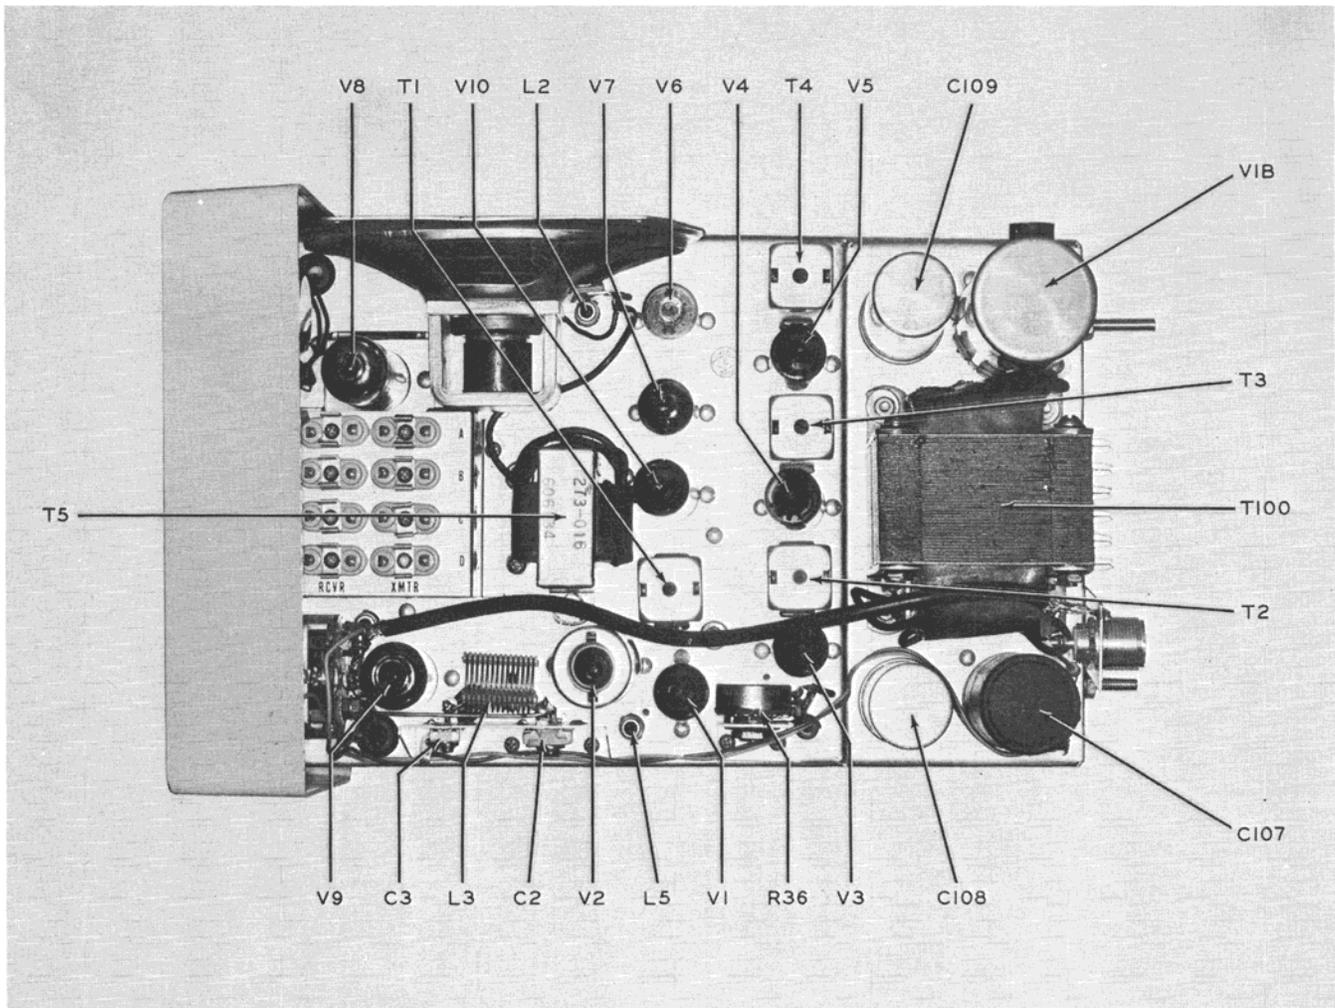

Figure 2. Model G-15 Citizen's Communicator, Top Chassis View
3. Plug the unit power input cable into the AC outlet. Plug the transmission line into the jack on the rear of the station cabinet. Turn the unit on using the "VOLUME-OFF" control knob and allow approximately 30 seconds for warm-up. Press the microphone push button. Refer to Figures 2 and 3 for the location of adjustments used in the following tuning procedure. Using a screwdriver, gently tighten the RF LOADING CAPACITOR fully clockwise. Then, alternately adjust the RF AMPLIFIER TUNING CAPACITOR and the RF OUTPUT LOADING CAPACITOR, in small increments, to obtain maximum deflection of the tuning meter. Work back and forth between the adjustments several times until no further increase in deflection can be obtained. Release the microphone button.